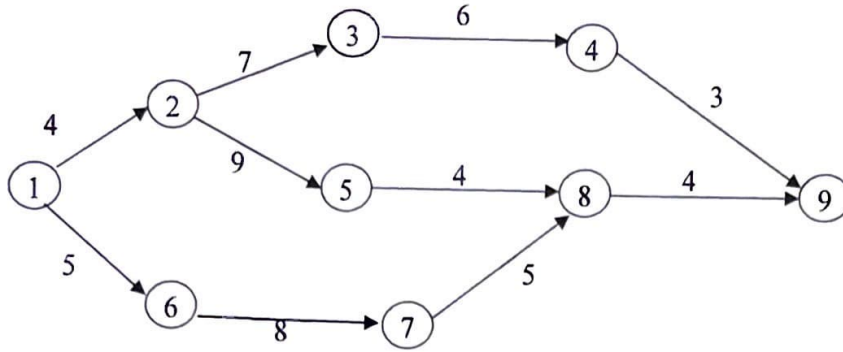

Figure Q3 Project Network Diagram
3. (a) Figure Q3 shows a network diagram for a construction project with duration indicated in months. Please calculate Early Start and Early Finish for all activities, advise the critical path project duration.